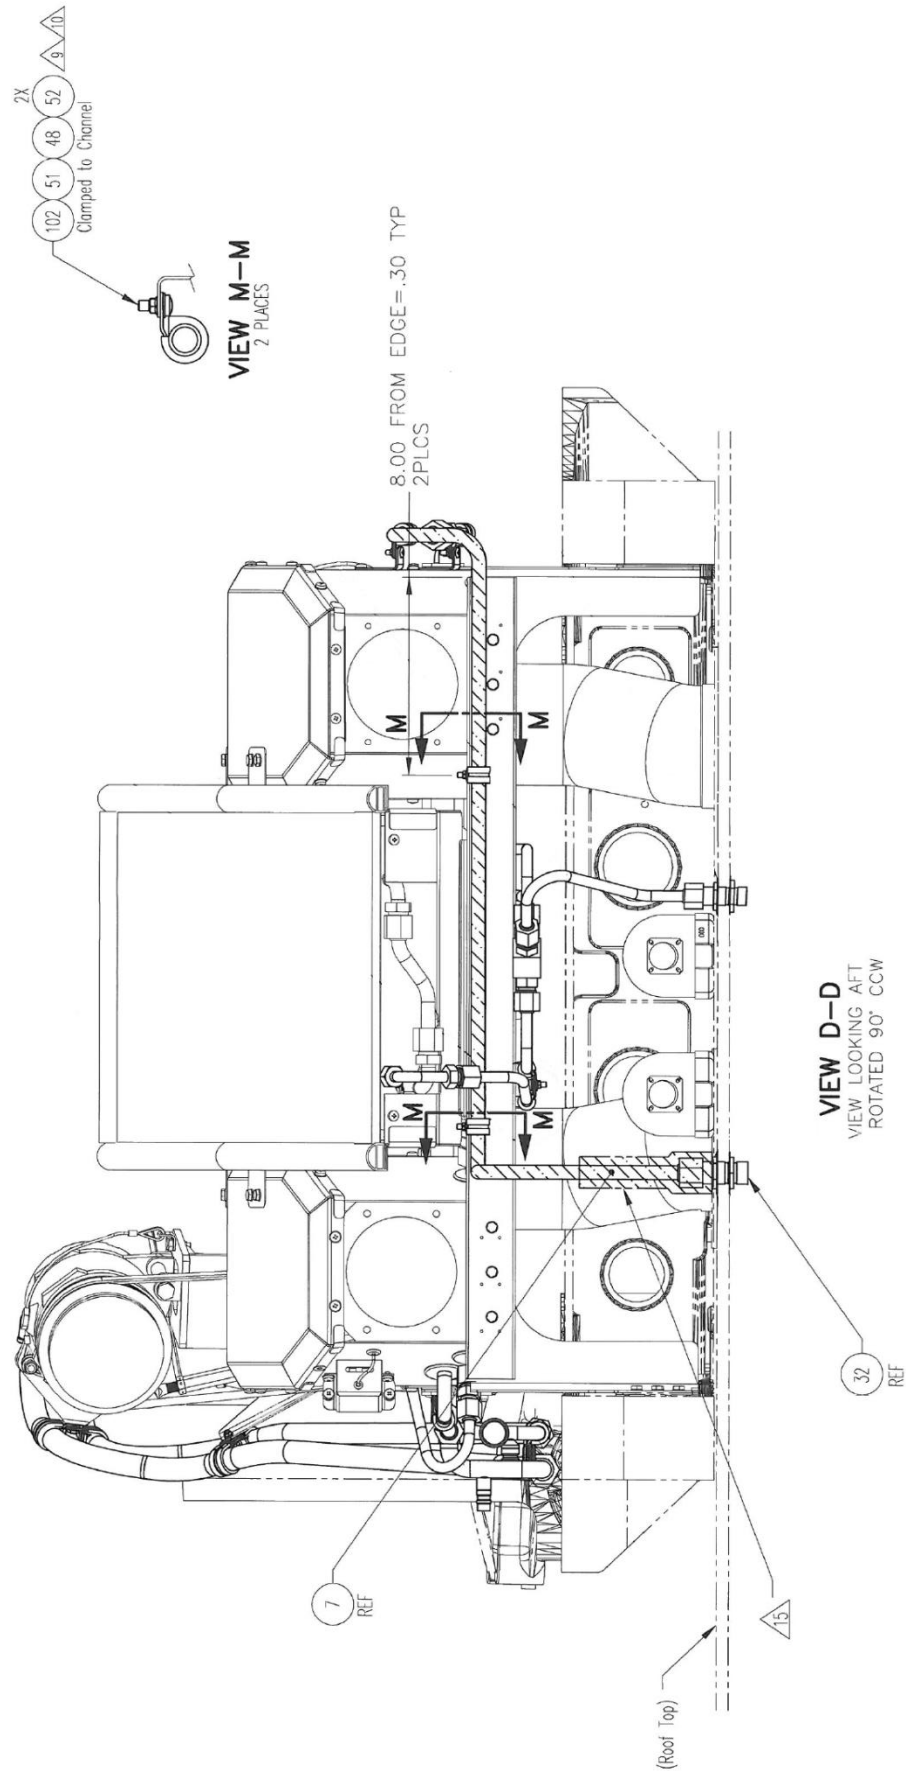

Figure 17: LH Aft Evaporator Plumbing Installation
- 2) Install 429EC-5020-T9 (Item 7) tube assembly and S-5080EC-10 (Item 41) Y-fitting assembly between aft evaporator and existing ES40630-8L (Item 32) bulkhead fitting. (Figure 17 & 18)
- 4) Install clamps (Item 102) and attaching hardware securing new tube assemblies. (Figure 17 & 18)
FLAG NOTE 15 (Figure 17 & 18)